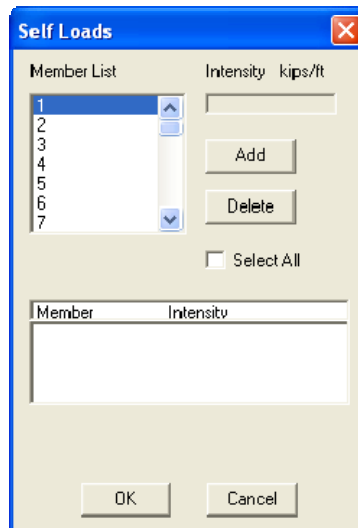

Figure 3-34 Self Loads dialog box
- From the Analyze menu, select Self Loads. The dialog box of Figure 3-34 appears.